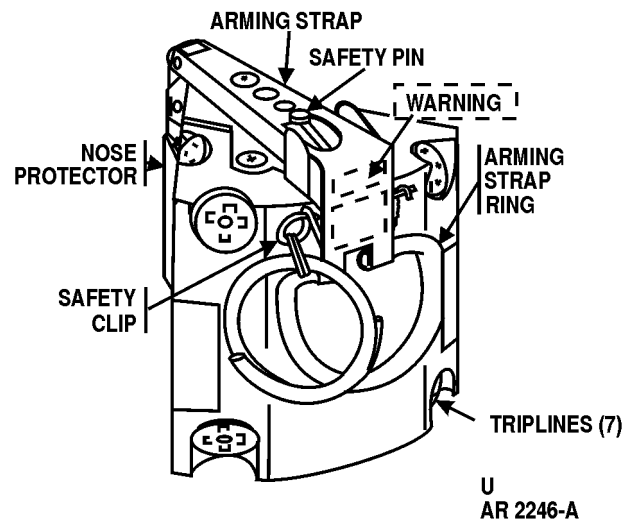
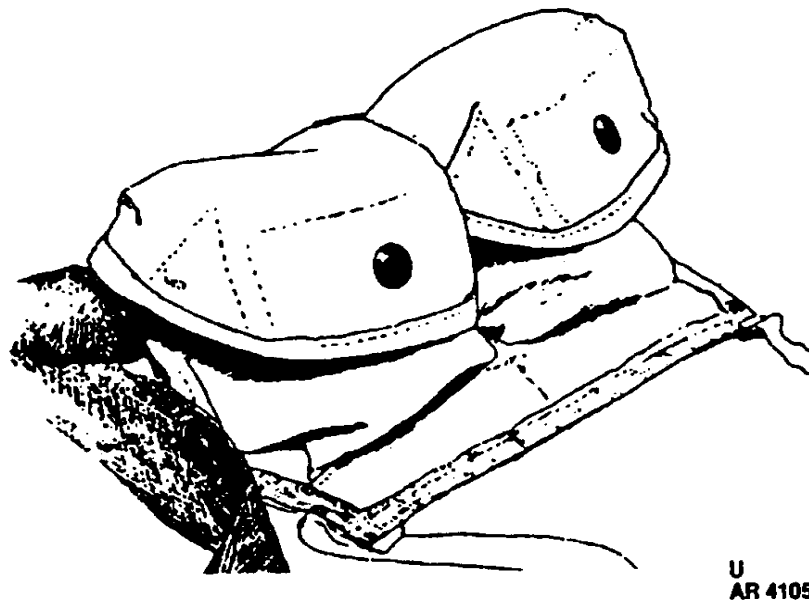

Figure 1-6. Mine, antipersonnel: M86.
Figure 1-7. Mine, antipersonnel: M86, packed two to bandoleer.
(1) Mine, M86 (fig. 1-6) is wedge shaped and similar in configuration to, and possesses functioning characteristics of the Adam Mine presently loaded in the 155mm projectile, M731. It contains a safety clip, arming strap assembly, and internal safing and arming device, seven tripline sensors, a reserve battery, electronic circuitry, and a kill mechanism, all encapsulated in molded plastic form. It is packed two to a bandoleer (fig. 1-7).